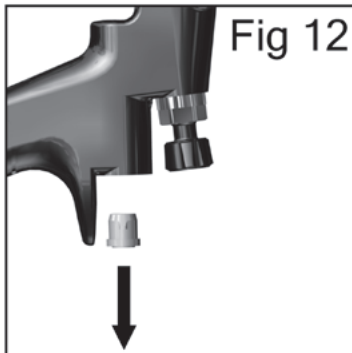

Fig 12
10. Turn the gun upside down and let the seal fall out. (See fig 12).